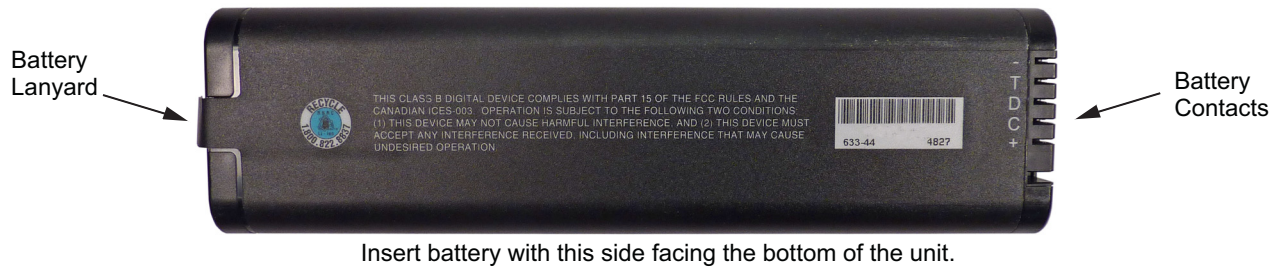

Figure 4-5. Battery Contacts and Orientation
5. Replacement is the opposite of removal. Note the orientation of the battery contacts, and be sure to insert the battery with the contacts facing the bottom of the unit, refer to Figure 4-5.